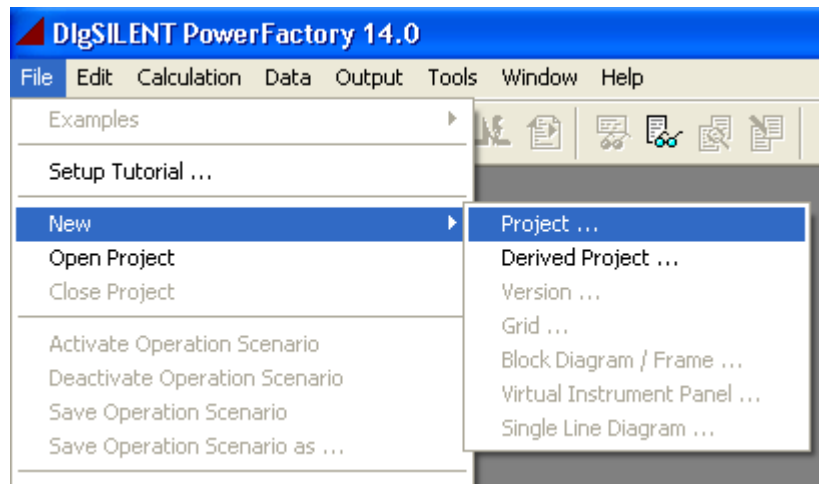

Fig. C.3: Creating a new Project from the file menu
- ▶ Choose *Project...* as shown in figure C.3